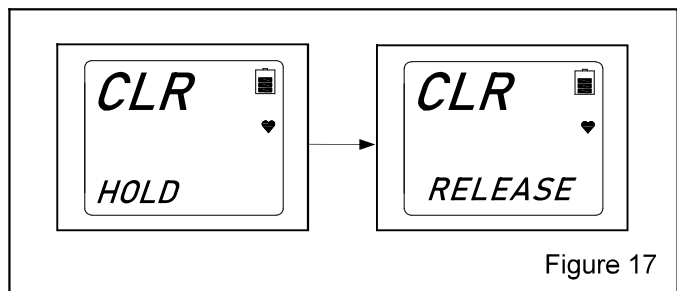

Figure 17
1. While PEAK appears on the screen, press Air and hold (as shown in the left image in Figure 17), and release it when prompted (as shown in right image).